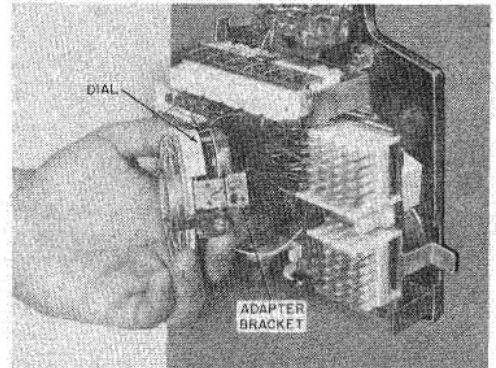

Fig. 12—Dial Adapter Bracket
**3.12 3-Type (MD) Speakerphone:** These sets are factory-wired for 3-type speakerphone except that the 851-type telephone set requires the replacement of the 8RA dial with an 8CA dial to provide a second set of off-normal contacts (P3 and P4 leads). When replacing the dial, the adapter brackets must be removed from the 8RA dial and added to the 8CA dial (Fig. 12). With both the
**5.02** When dial replacement is necessary in the 851-type telephone set, use an 8RA dial for nonspeakerphone sets and an 8CA dial for sets with speakerphone. Remove dial by loosening adapter mounting screws and springing dial brackets sufficiently to release dial from locating pins. Transfer adapter brackets from dial being replaced to new dial (Fig. 12).